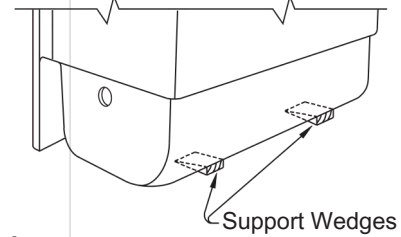

Figure 4
7. Shims are recommended. Place shims under the unit after it is put into place and as it is being leveled. Apply an adhesive to the bottom of each shim to permanently secure into place. To ensure proper fit, support and a solid base, a minimum of two shims must be used on each unit. *See Figure 4* for additional details.